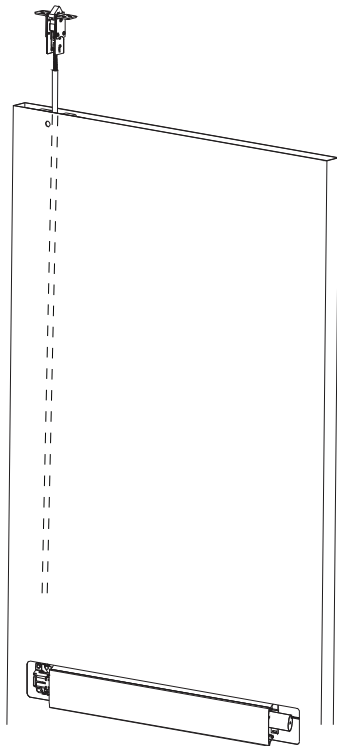
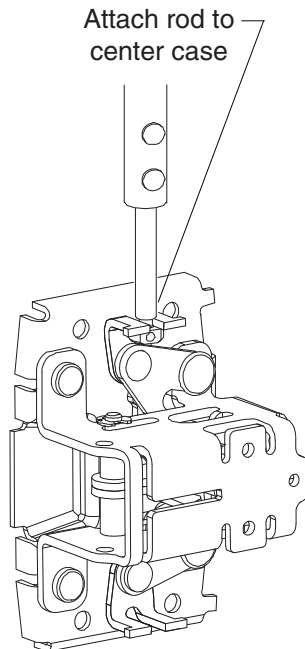

Figure 5-3
Figure 5-4
- Slide rod and latch into prep at door top (Figure 5-3), and attach rod to center case (Figure 5-4).